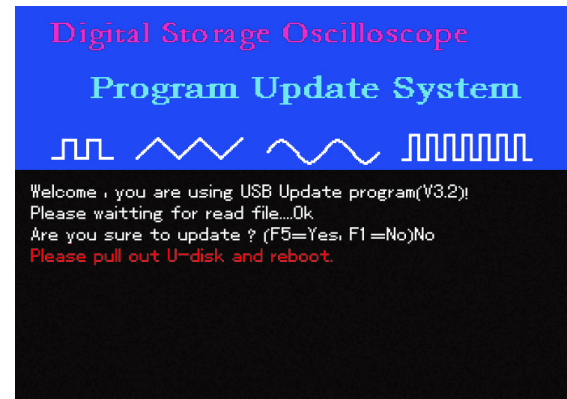

Figure 5-15
10. During upgrade, if you wish to cancel upgrade after the system has determined that the upgrade pack is correct, press [F1] to exit the upgrade system. The prompt in Figure 5-15 will appear : “Please pull out U-disk and reboot.”